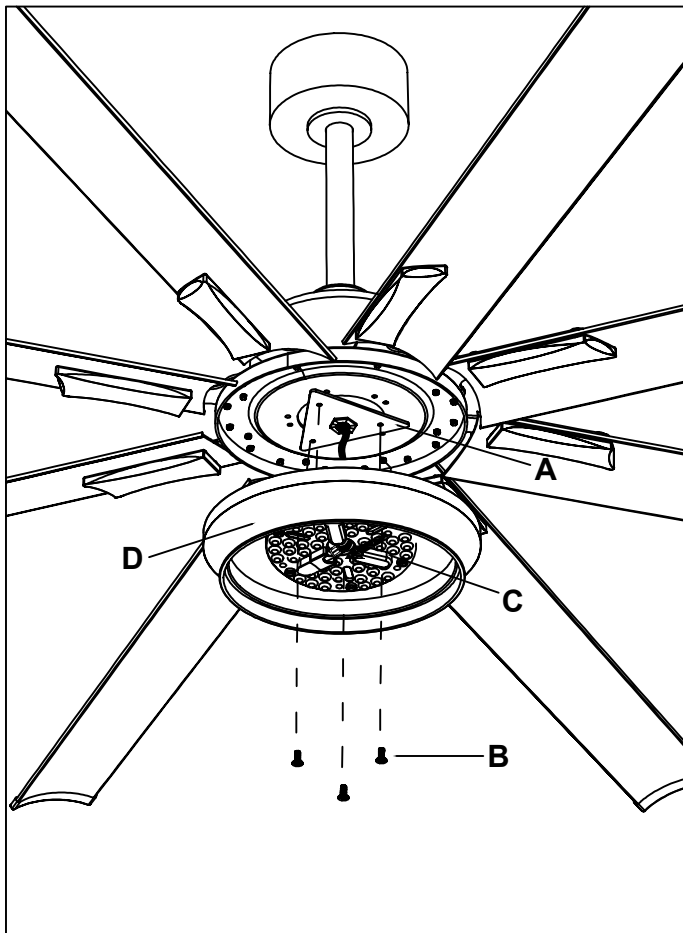

Figure 6.1
- Remove three light kit assembly screws (B) from the bottom triangle plate (A) of the motor, Connect the terminals under the motor to the LED board (C). Align the lampshade base (D) with the triangle (A) hole, and reinstall the screw (B) that was previously removed. Make sure all screws (B) are tightened.(Figure 6.1).